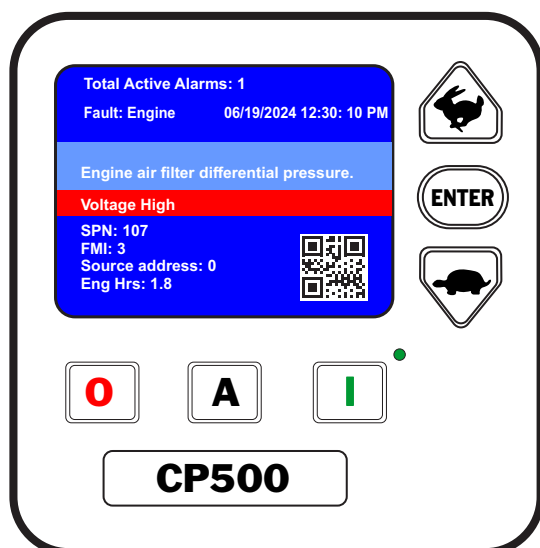

Figure 19. Total Active Alarm Screen (QR Code)
- Press the **ENTER** button and verify that the **TOTAL ACTIVE ALARM QR** screen is displayed as shown in Figure 19.